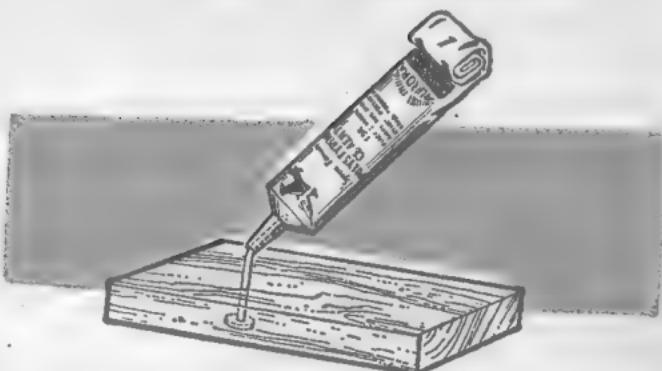

Fig. 14.
16. A cement tube holder. See Figure 14, page 29.
The cement tube should be kept tightly capped when not in use. However, it is not necessary to remove and replace the cap each time during assembly work. To avoid this, drive a small nail at an angle through a section of thin board or plywood and impale the tube on it (Figure 14). The nail should be large enough to fill the tube opening.